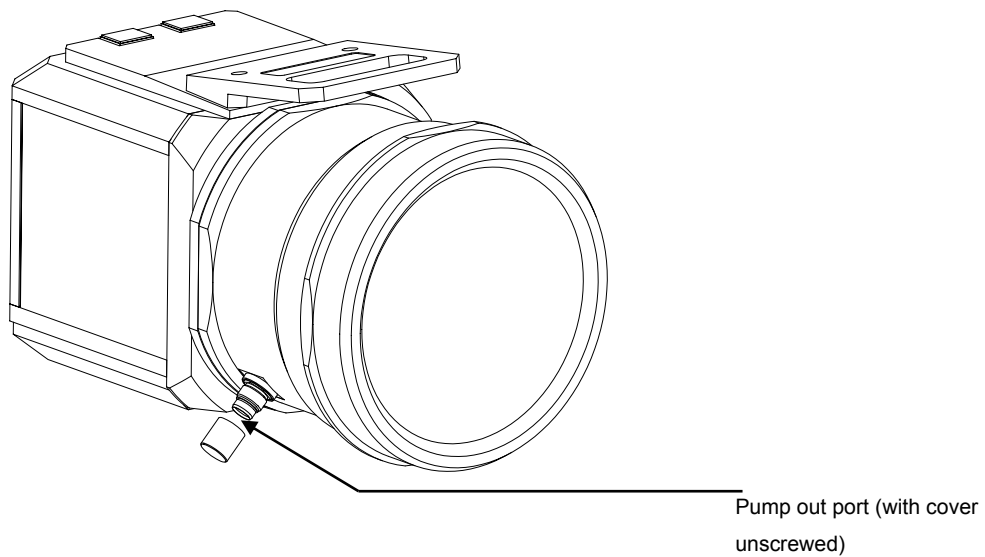

Figure 9.14.1 View of the access plates and pump out ports of the Sapphire and Onyx CCD detectors
- Unscrew top access plate of CCD detector (See figure 9.14.1 for details of specific CCD detector).